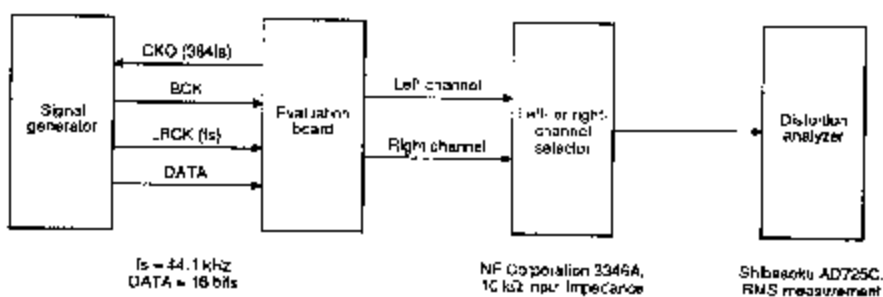

Figure 1. Measurement circuit block diagram
1. The measurement circuit block diagram is shown in figure 1. The measurement circuit itself is shown in figure 2.